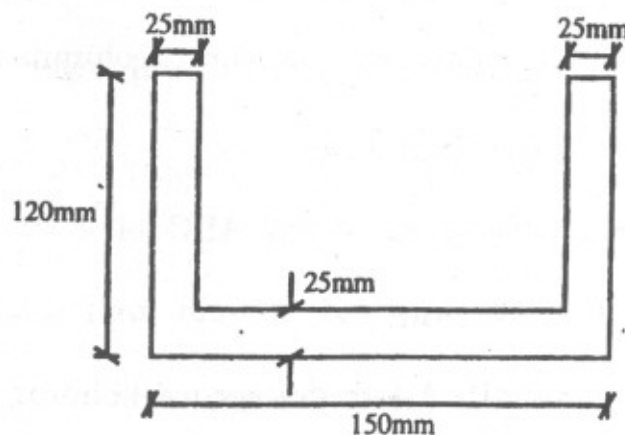

Fig. 8
- (b) A horizontal beam of section is 3 m long and is simply supported at the ends. Find the maximum udl it can carry if the compressive and tensile stress must not exceed  $55 \text{ N/mm}^2$  and  $30 \text{ N/mm}^2$  respectively. Draw a diagram showing the variation of stress over mid span section of beam. (Ref. Fig. 8) [10]